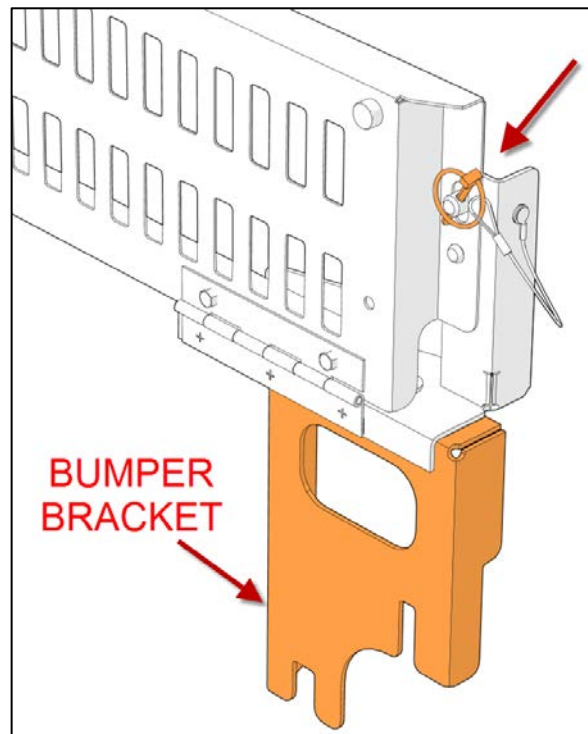

Figure 2
2. Lock the position of the bumper bracket with the locking pin as shown on picture Figure 2.